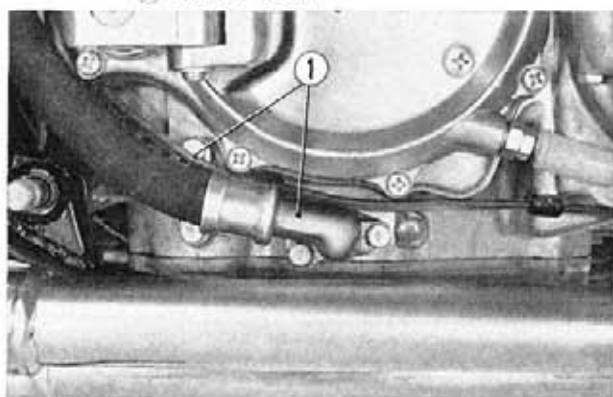

Fig. 2-4 ① Engine oil hoses
10. Disconnect the two engine oil hoses at the engine and remove the oil tank. Disconnect the oil tank breather pipe from the upper crankcase. (Fig. 2-4)